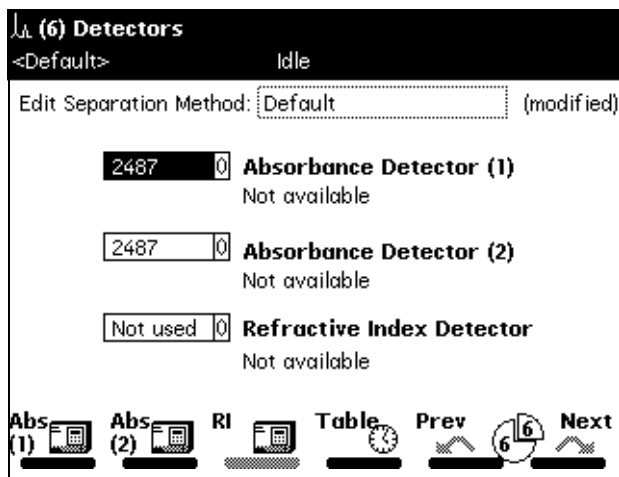

Figure 6-10 Detectors Screen
1. Press the **Next** or **Prev** screen key to display the Detectors screen (Figure 6-10).